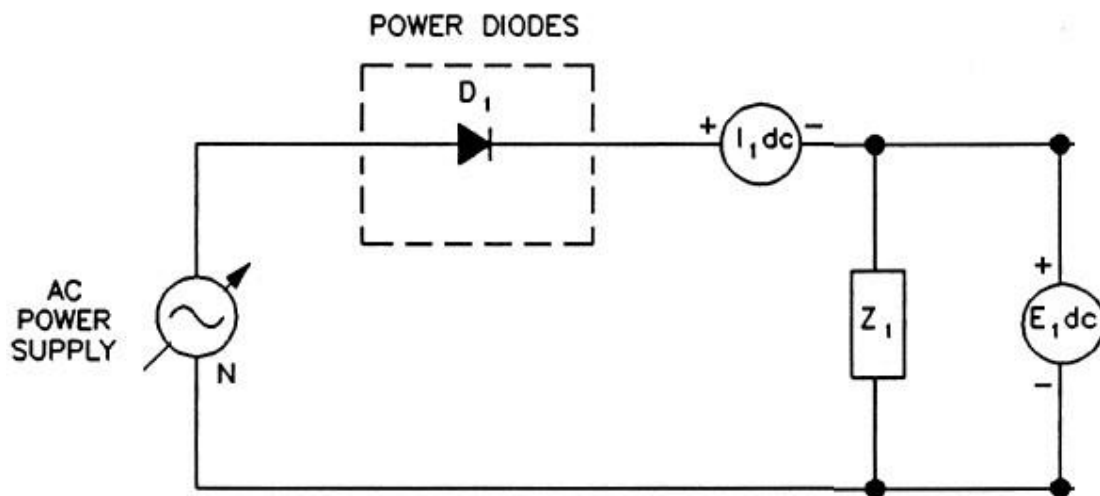

Figure 10: Circuit for observing current and voltage waveforms.
5.2.1. Set up the circuit of Figure 10 using the resistive load Z_1 (a).